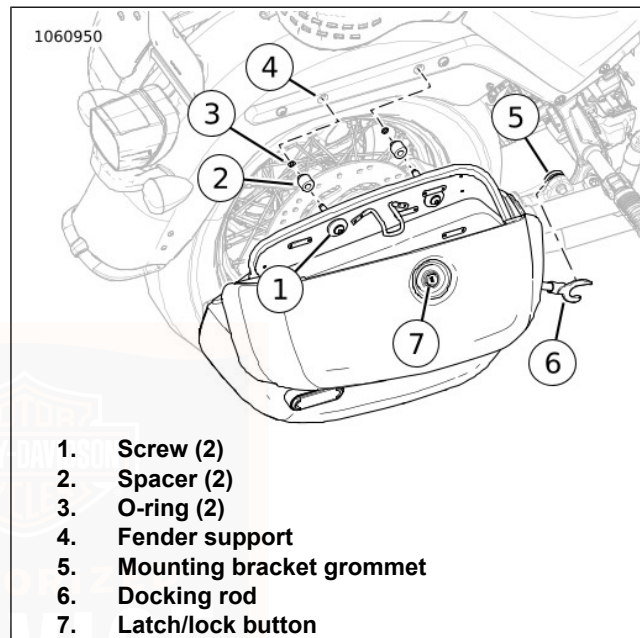

Figure 47. Saddlebag Assembly
1. See Figure 47. Unlock saddlebag.
- a. Insert key into latch button (7) and rotate one-half turn counterclockwise.
3. See Figure 47. Lock saddlebag.
- a. Insert key into latch button (7) and rotate one-half turn clockwise.
1. See Figure 47. Open saddlebags.
2. Use one hand to support the saddlebag and another hand to remove the saddlebag mounting screws (1).
1. See Figure 47. Verify spacers (2), O-rings (3), and grommets (5) are in place and in good condition.